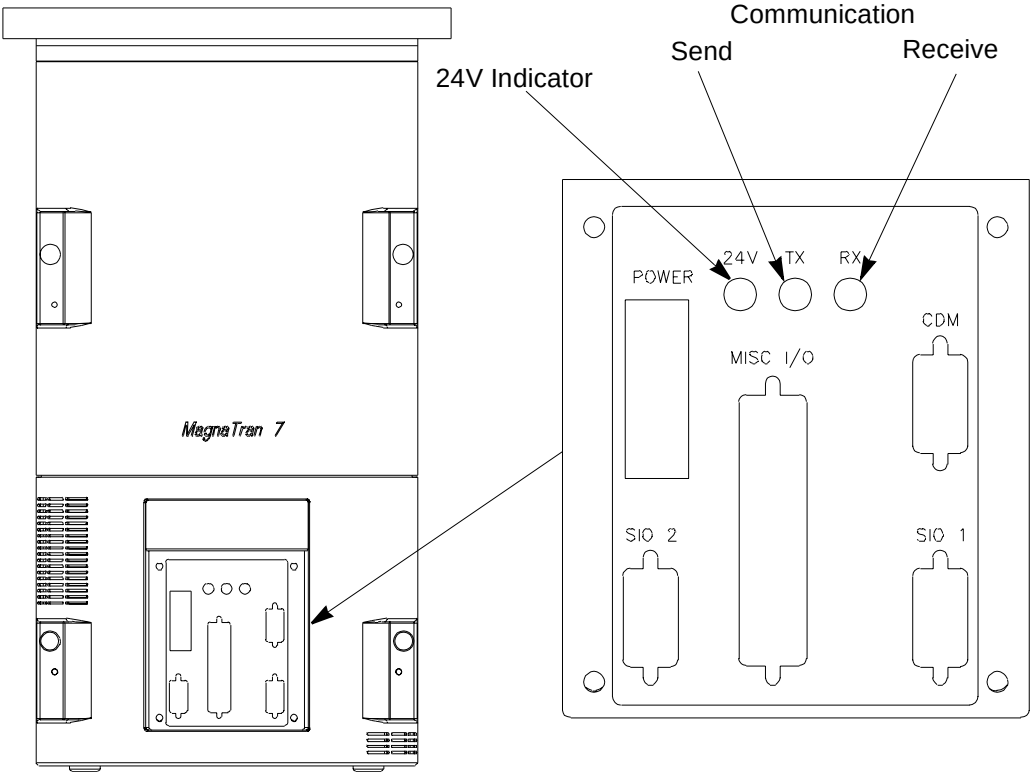

Figure 6-8: MagnaTran 7 Indicators
*Depending on the I/O board type provided, the Interface Panel will be different. **Figure 6-8** shows the I/O Panel for a High Side I/O board. Others look similar.*